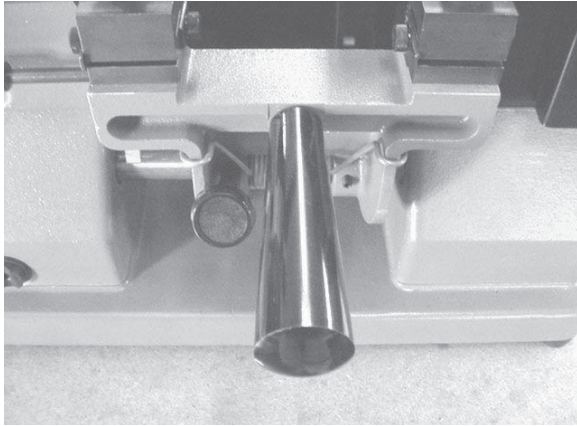

FIGURE 2
3. Screw in the yoke handle (see figure 2).